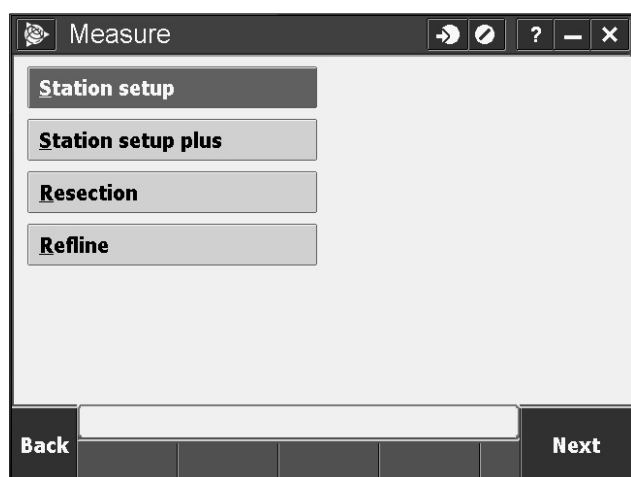

Figure 9. VX & S series menu.
- c. Choose Station Setup (uses instrument position and a backsight, Figure 9)